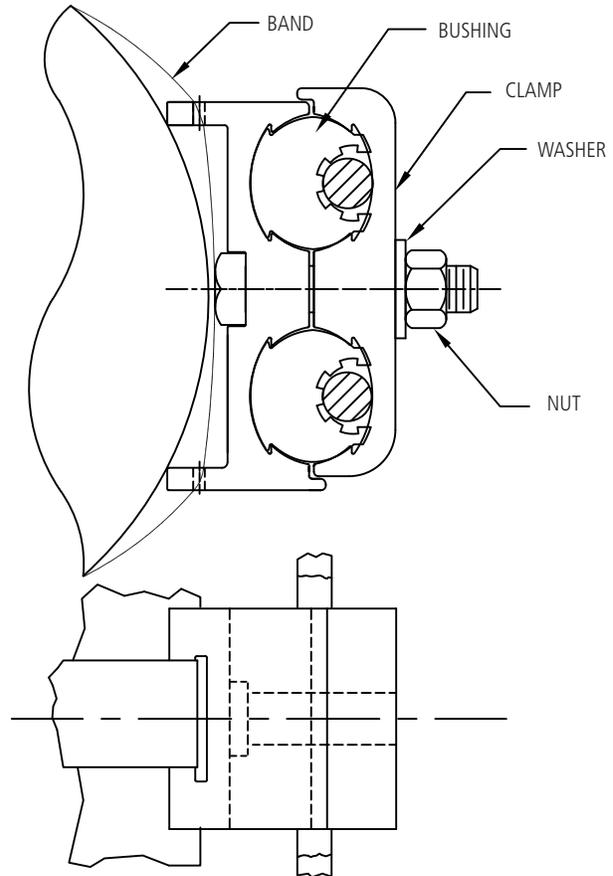

FIG. 2
4. Tighten the bolt on the downlead clamp until a bolt torque of 20-25lb-ft is achieved. See **Fig. 2**.